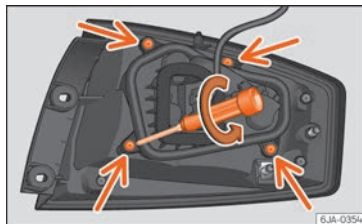

Fig. 100 Retaining screws on reverse side of rear light unit.
- Unscrew the four retaining screws from the bulb holder anti-clockwise using a screwdriver or a Torx 20 key (T20) from the vehicle tool kit »» Fig. 100. Take care not to lose the bulb holder retaining screws.